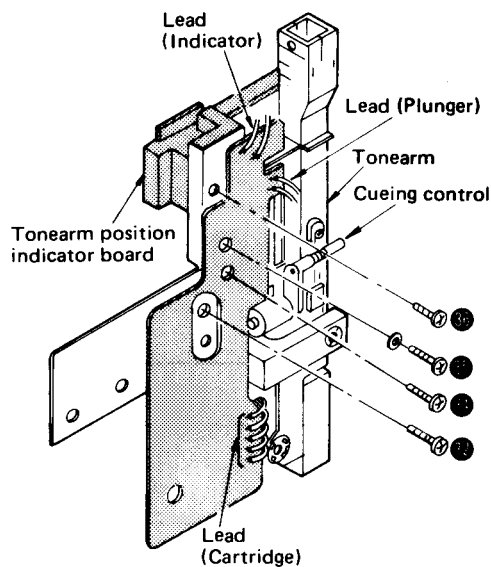

Fig. 10
3. Unsolder 5 leads of the cartridge. (Fig. 10)
4. Remove the setscrew of the tonearm board. (Fig. 10 : 32)
4. Remove the 2 setscrews of the cueing control ass'y. (Fig. 10 : 34 , 35)
3. Unsolder 2 leads of the indicator. (Fig. 10)
4. Remove the setscrew of the tonearm position indicator board. (Fig. 10 : 36)